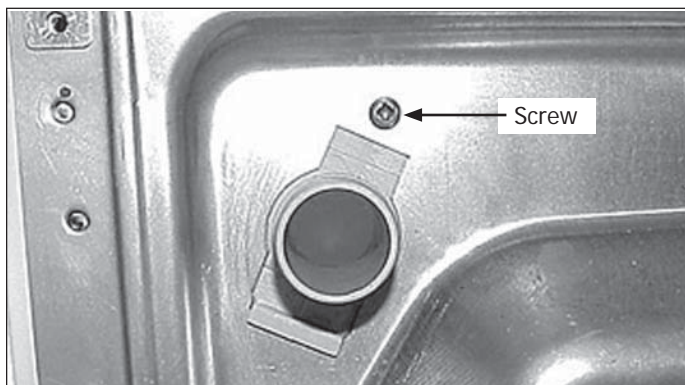

Figure 4-83.
2. Disconnect the (2) drain hoses and siphon break hose.
3. Remove screw holding coupler to the rear panel and pull coupler out the back. (See Figure 4-83)